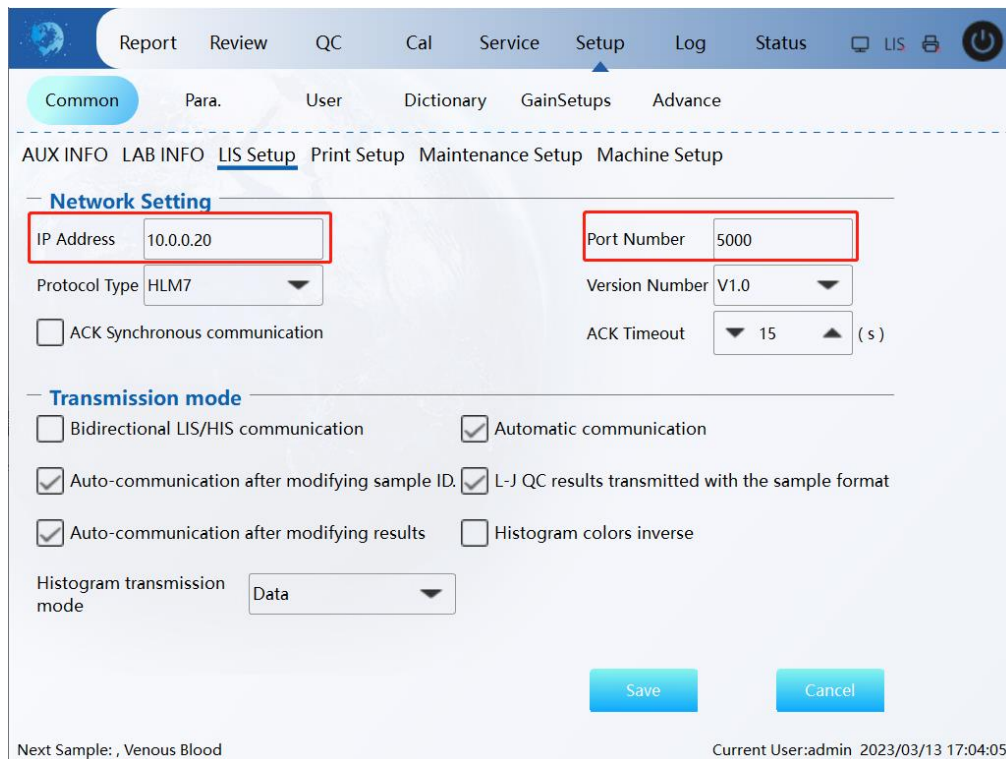

Figure 8-3 LIS setup
2. IP address setting of "LIS Setup" interface: If the IP address of LIS server is 10.0.0.20, the IP address of "LIS Setup" interface should be set to 10.0.0.20, and the port number 5000 by default. As shown in the Figure 8-3, click "Save" to complete the "LIS Setup".